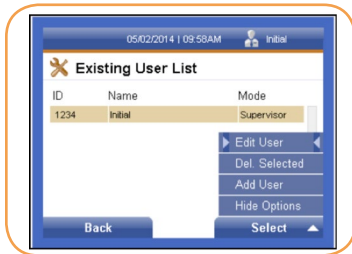

FIGURE 30
1. Select the desired user. Press the right soft key to access the Options menu (Figure 30).